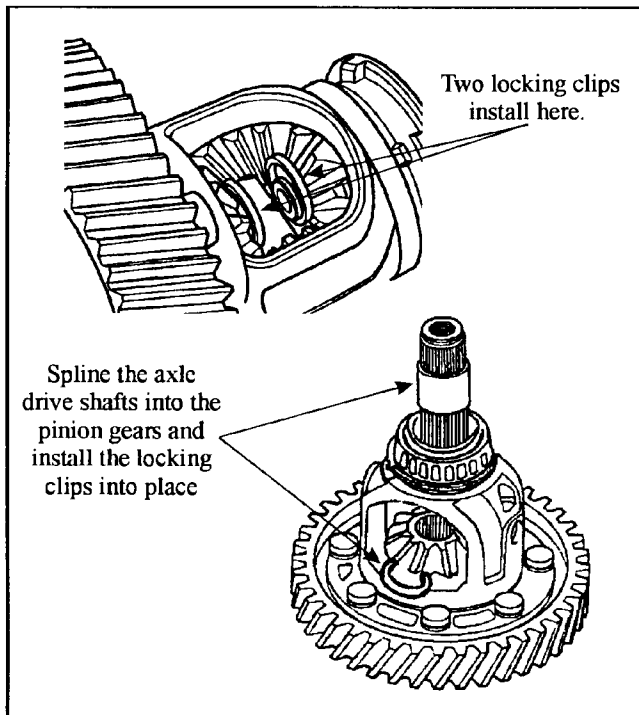

Figure 103
1. Install the axle drive shafts into the pinion gears and install locking clips into place as shown in Figure 103.